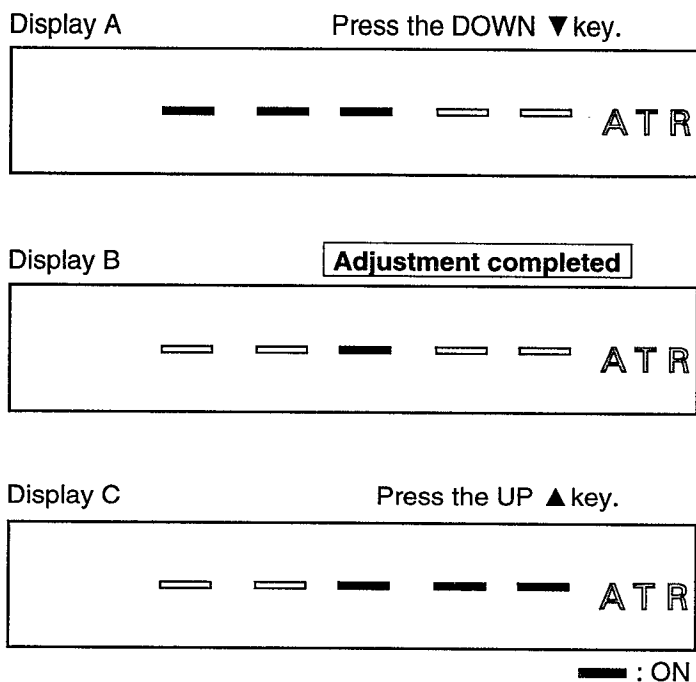

Figure 2
- (2) Playback the test tape and allow the automatic ATR to finish. The ATR is finished when "ATR" on the FIP stops blinking.
- (3) Connect the lead attached in step (1) to the Tuner (ETA01) earth line. Then, most of the segments on the FIP, for example, "ATR" goes OFF. See Figure 2 below. (Make sure that the lead can not come loose.)
- (4) Adjust the display for FIP (H701) with the CH UP/DOWN (▲/▼) keys until it is as shown in Figure 2 Display B below.
- (5) Remove the lead.